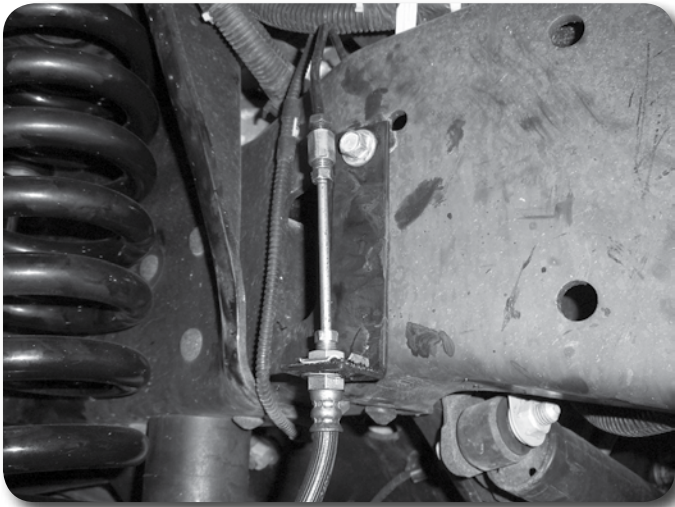

Figure 16
33. Located the new 'L' shaped brake line drop brackets. Install the brackets to the original brake line mount position on the frame. **Figure 16** Use the original brake line hardware and torque to 15 ft-lbs.